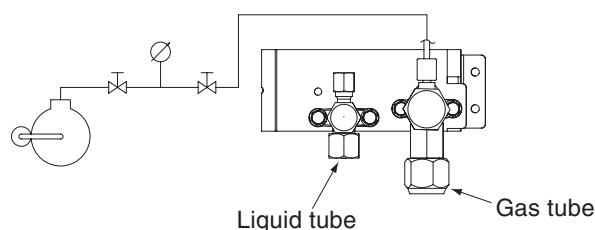

Fig. 6-2
- (6) Both the gas and liquid tube service valves are open. If not, open them now. (Fig. 6-2)
- (7) Request that the customer be present for the trial run.